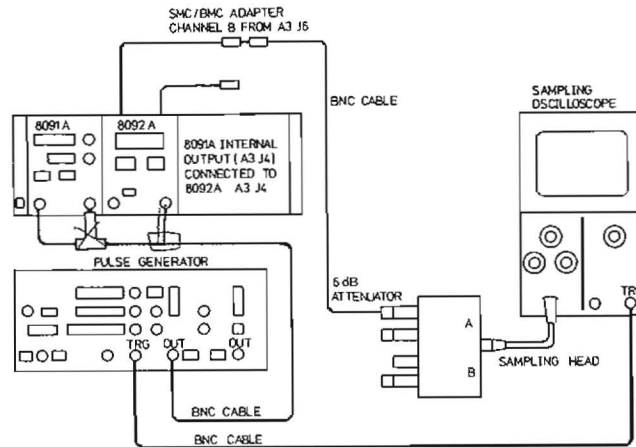

Figure 4-2.
1. Connect equipment as shown in Figure 4-2 and adjust 8091A TRIGGER LEVEL vernier to get a gated output signal.